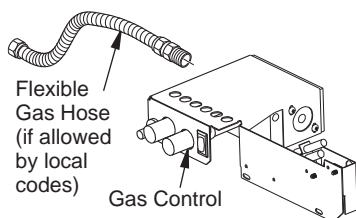

Figure 11 - Attaching Flexible Gas Hose to Heater Gas Regulator
1. Apply pipe joint sealant lightly to male threads of gas fitting (not provided). Connect approved flexible gas hose to inlet side of gas control (see Figure 11). **IMPORTANT:** Hold gas fitting with wrench when connecting flexible gas hose.